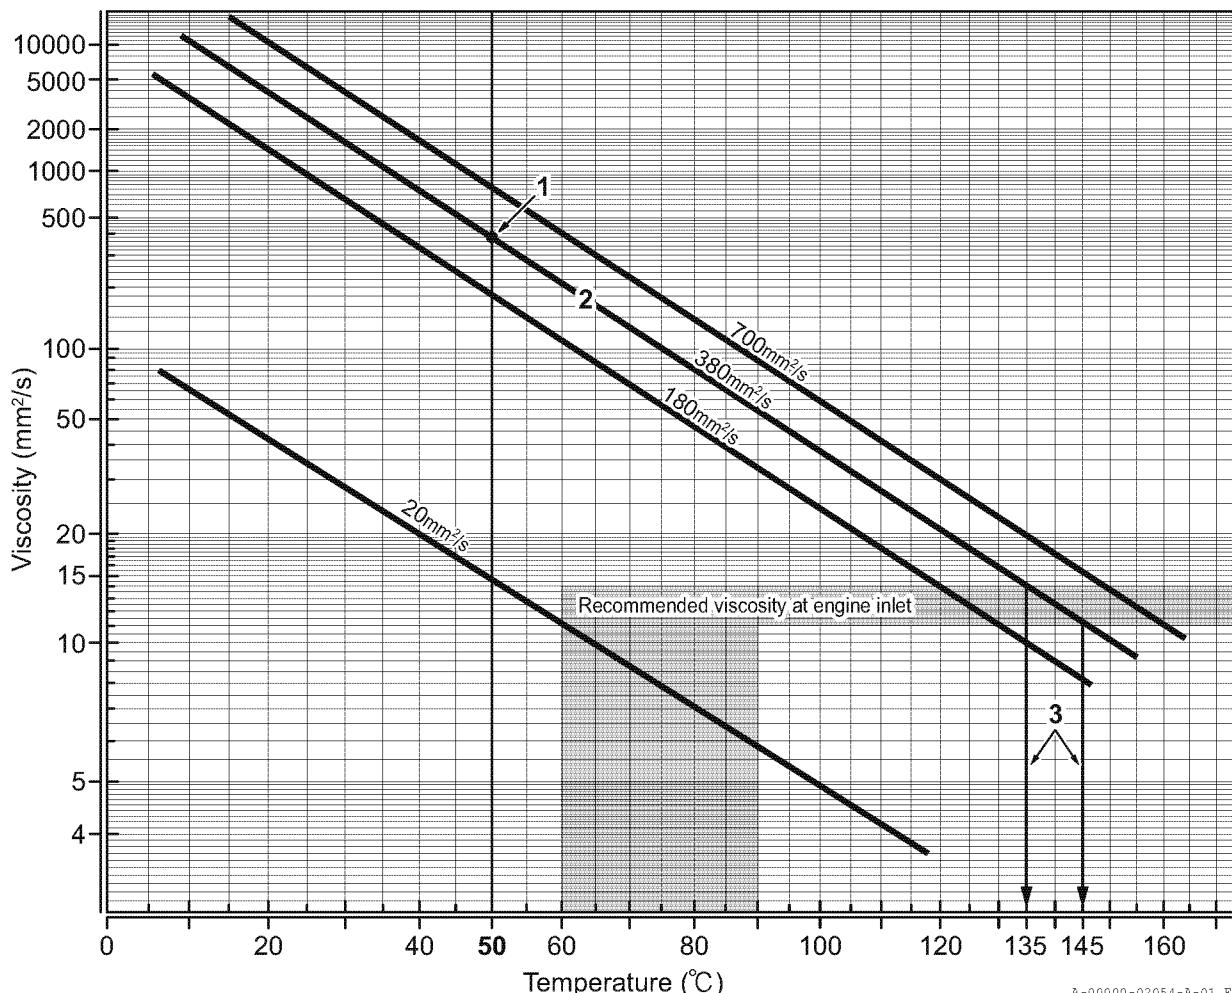

Fig.2 How to find the correct heating temperature for heavy fuel oil
Viscosity at engine inlet	1.8 mm ² /s to 14 mm ² /s (see Fig. 2)
- Set the fuel heating temperature so that the fuel oil viscosity becomes the recommended viscosity and temperature as indicated in Fig. 2 at the engine inlet to allow a temperature decrease in the piping system.